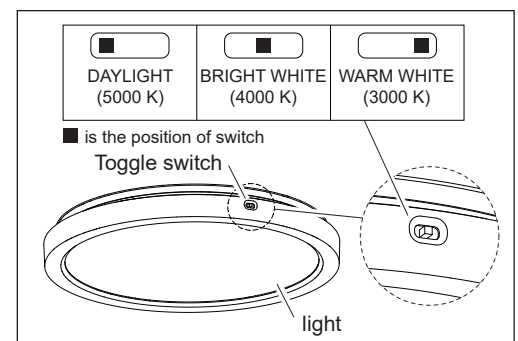

Fig 4
- The " Toggle switch " on the side of the light can switch the light between 3 different color temperatures to match the other lighting in your room. (Fig 4)